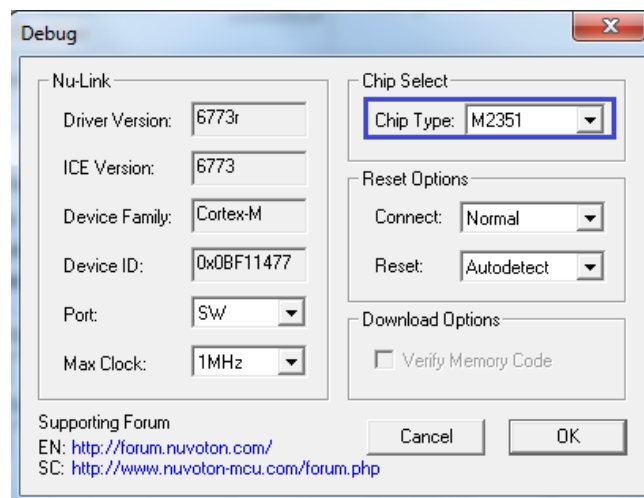

Figure 3-2 Select Chip Type
2. Click “Option”->”Debug”->”Settings” button to enter the debug setting page then select “Chip Type” as M2351, as shown in Figure 3-2.